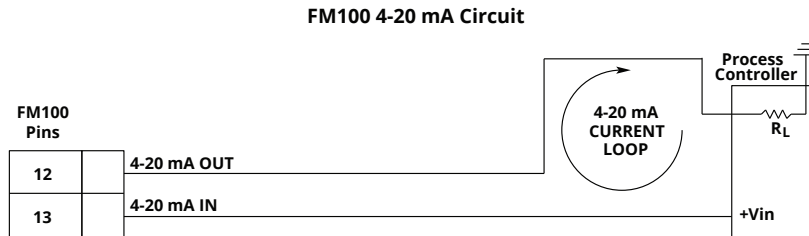
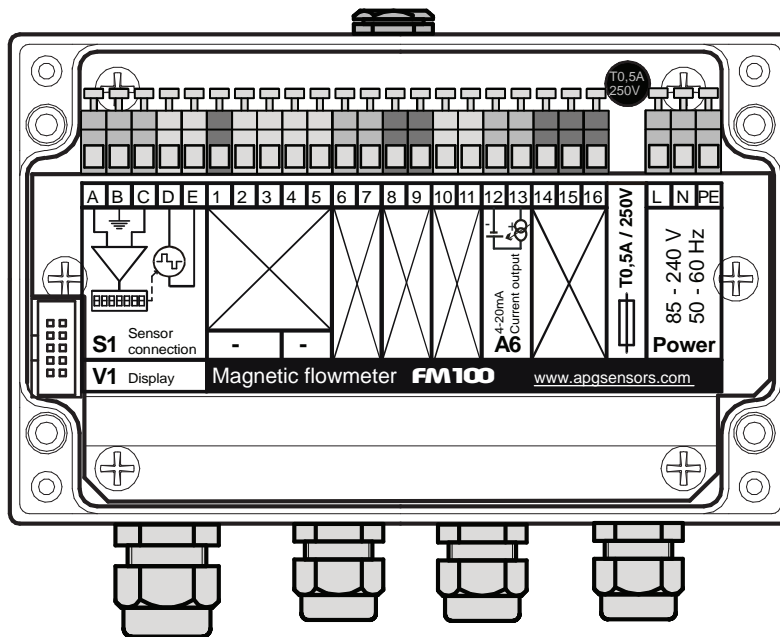

Figure 1.1 - 4-20 mA Wiring Diagram
Figure 1.2 - FM100 Terminal Layout
The FM100 comes with a 4-20 mA output, and requires 85 - 240 VAC input power. The 4-20 mA loop is connected to pins 12 and 13 (See Figures 1.1 and 1.2), and power is connected on the L, N, and PE terminals at the far right (Figure 1.2).
- Insert the incoming power line through the right-most cable gland. Connect the wires to the L, N, and PE terminals (see Figure 1.2). Use the small flat head screwdriver to operate the terminals if necessary.
- Insert the 4-20 mA loop cable through another cable gland. Connect the wires to terminals 12 and 13 (see Figure 1.2). Use the small flat head screwdriver to operate the terminals if necessary.